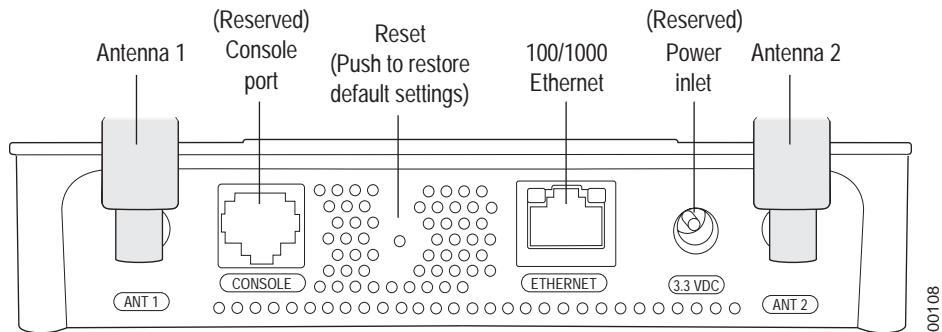

Figure 6: AP200 Connector Panel
3. Connect one end of the PoE 100BaseT Ethernet cable to the 100/1000 Ethernet connector, shown in Figure 6.
9. Connect one end of the PoE 100BaseT Ethernet cable to the 100/1000 Ethernet connector, shown in Figure 6.
10. Connect one end of the PoE 100BaseT Ethernet cable to the 100/1000 Ethernet connector, shown in (see Figure 6).
12. Connect one end of the PoE 100BaseT Ethernet cable to the 100/1000 Ethernet connector, shown in Figure 6.